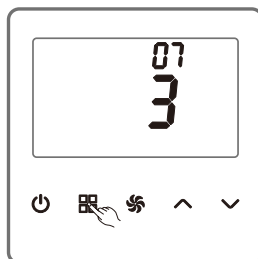

Figure 13
As shown in the Figure 13, on the parameter setting page, press  (MODE) to switch the option number to 07.  (UP) or  (DOWN) is provided to a switch between "1", "2" and "3" (the three ranges).